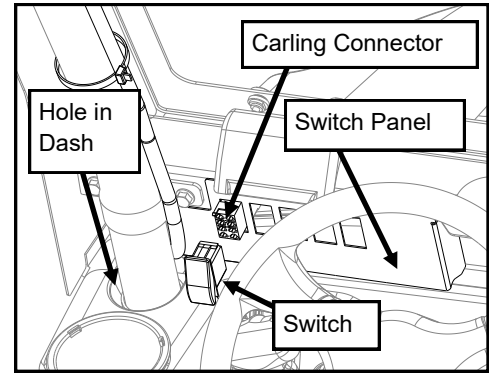

Fig. 7
7. Insert the switch for each accessory into the switch panel and attach the accessory wire harness to the back of it. Route all harnesses around the back of the ROPS tube. Push the short wires (red + black) down through the opening in the dash (see figure 7) and route to the fuse block area. Also push the heater harness wires down through the opening in the dash if installed.